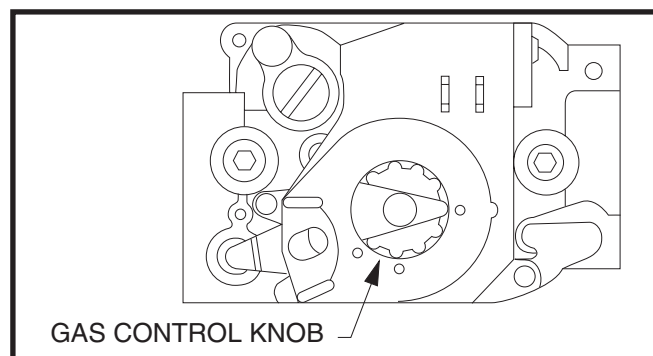

Figure 29. Direct Ignition Gas Valve - Honeywell
3. Remove the furnace door and turn off the gas valve. Push in and turn the gas control knob clockwise to **OFF**. See Figure 29 \(page 21\).
4. Wait ten (10) minutes to clear out any gas. If you smell gas, **STOP!** and follow the Safety Information. If you do not smell gas, proceed to step 5.
- Turn the gas valve ON. Push in and turn gas control knob counter-clockwise to **ON** (Figure 29).
- Turn gas control knob clockwise to **OFF** (Figure 29).
2. Verify the furnace On-Off switch is in the ON position. See Figure 27 (page 17) or Figure 29 (page 21).